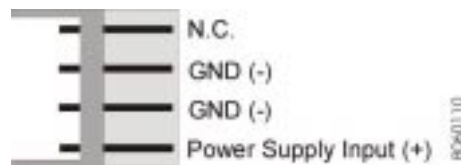

Figure 11: Connecting the Supply Voltage Input X300
The input voltage is connected to the socked connector X300 ⑦. The socked connector corresponds to the supply voltage connector from the 3.5" floppy disk drives. *Figure 11* shows the pin-out of the supply voltage input.